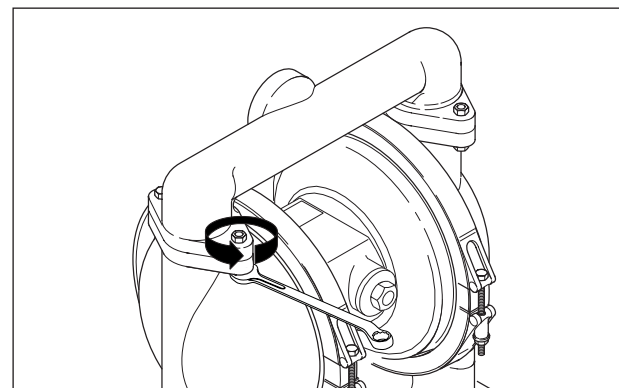

Fig. 8: Removing suction and pressure ports.
- Loosen the screws and disassemble pressure and suction sockets (Fig. 8).